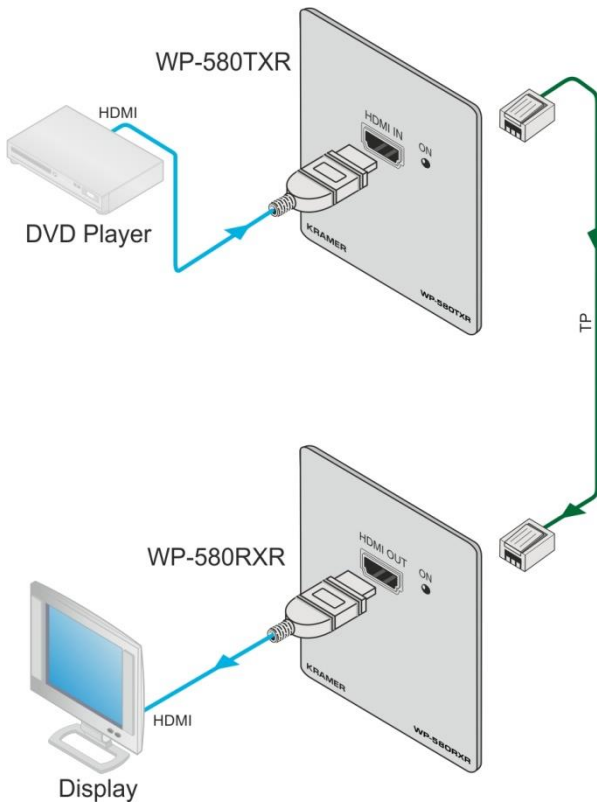

Figure 5: Connecting the WP-580Txr/WP-580Rrx Transmitter/Receiver Pair
You can use the **WP-580Txr** HDMI Line Transmitter and the **WP-580Rxr** HDMI Line Receiver to configure an HDMI transmitter/receiver system, as illustrated in the example in Figure 5.
3. 5V DC power adapter to the power socket and connect the adapter to the mains electricity (not shown in Figure 5).
6. Connect the 5V DC power adapter to the power socket and connect the adapter to the mains electricity (not shown in Figure 5).